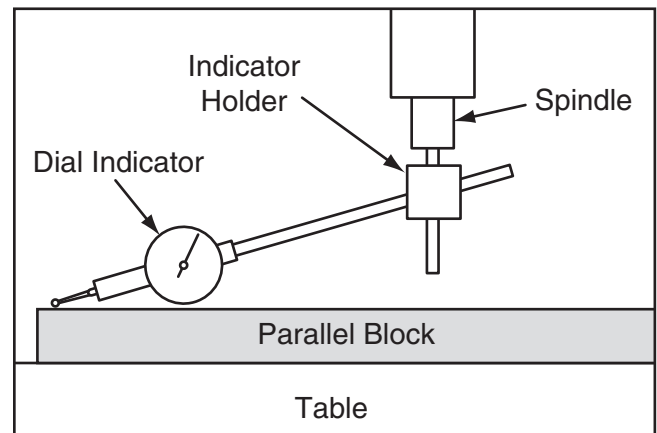

Figure 56. Dial indicator mounted.
4. Install indicator holder into spindle or onto quill, then mount indicator onto it so that the point is as parallel to the block as possible (see the illustration in **Figure 56** for an example).